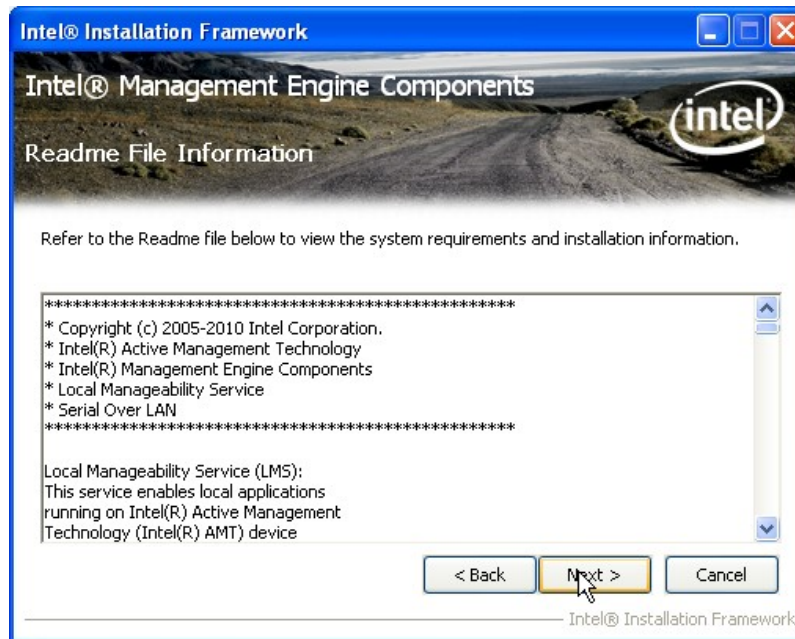

Figure 6-30: Intel® ME Driver Read Me File
Step 10: The Read Me file in **Figure 6-30** appears.